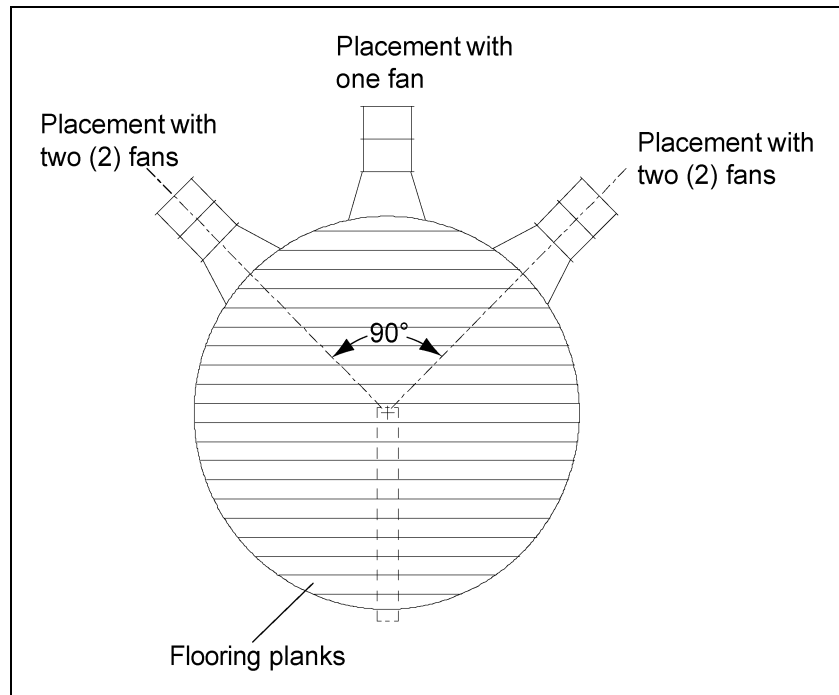

Figure 4A
1. Before beginning to install the floor, locate the center of the bin where the sweep pivot pipe will be located. Next, locate where the unload tube will pass through the bin wall. Refer to the floor installation manual for the floor support locations, but allow the unload tube to have an unobstructed path to the sidewall exit. Also, refer to Figure 4A for recommended fan locations with respect to the unload system.